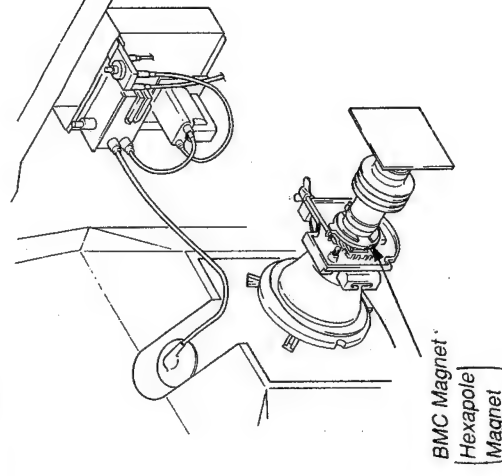

Fig. 1-7.
3. Move the BMC magnet to correct H-static convergence as shown in Fig. 1-7.
3. Move the BMC magnet to correct static convergence as shown in Fig. 1-7.